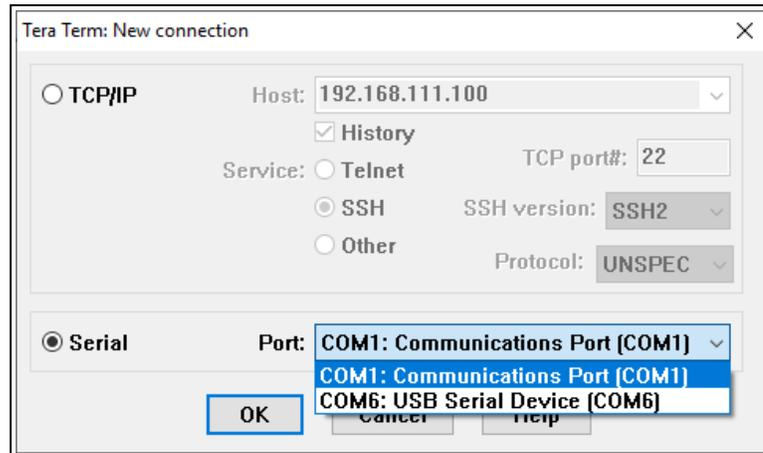

Figure 222: Select the Z9-P or Z9-PE COM Port
3. Click the **Port** list box arrow and select the COM port the Z9-P or Z9-PE is connected to. Figure 222